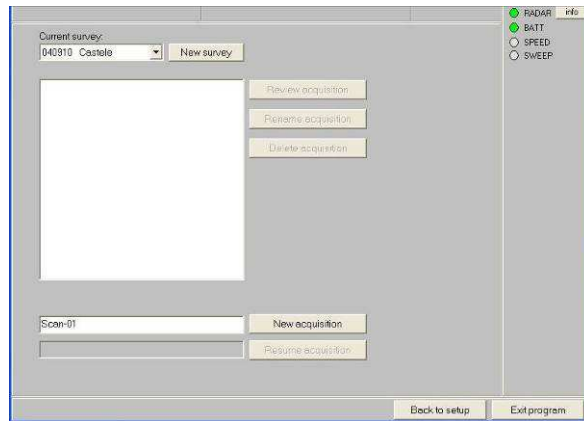

Fig. 4-25 – Setting up a New Acquisition
5. You can then move on to the acquisition phase by pressing the **New acquisition** button shown in Fig. 4-24, which is part of the window shown in Fig. 4-25.
1. Pressing the  button on the window shown in Fig. 4-25 automatically produces the **NEW ACQUISITION** window shown in Fig. 4-27.